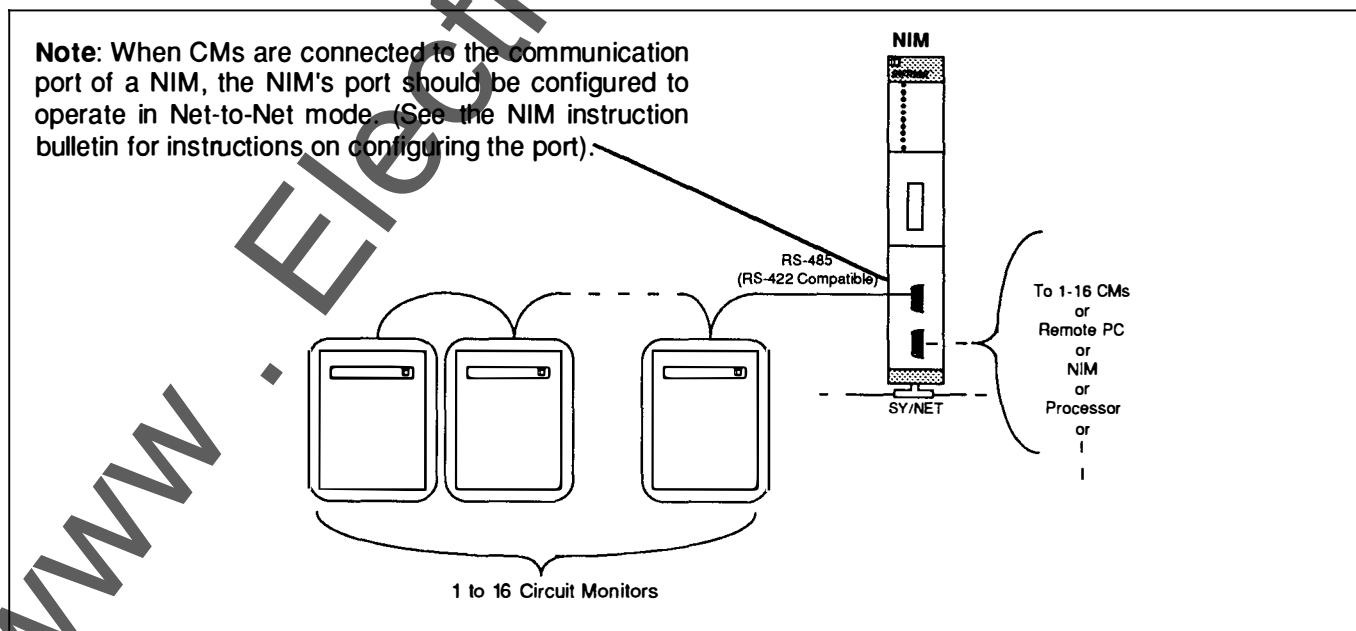

Figure 6-4 - CM Connection to Communication Port of Network Interface Module (NIM)
- 3) Connection to the communications port of a SY/MAX Network Interface Module (See Figure 6-4).